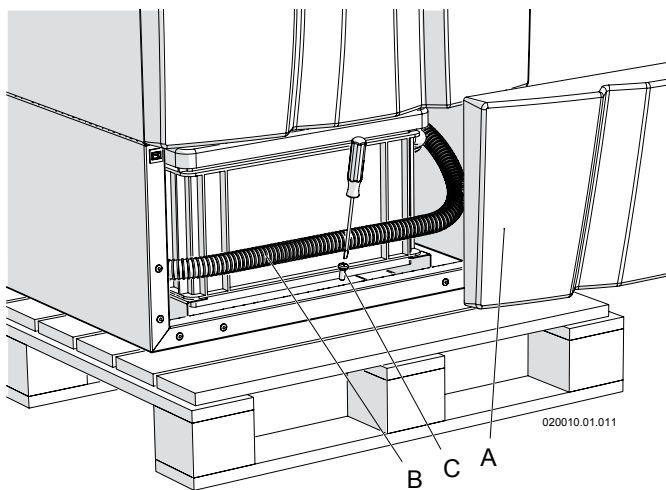

Figure 6-1 Remove heater from wood pallet
2. Remove the front door (see Section 17.2) to access the screw "C" (Figure 6-1) in front of the unit.